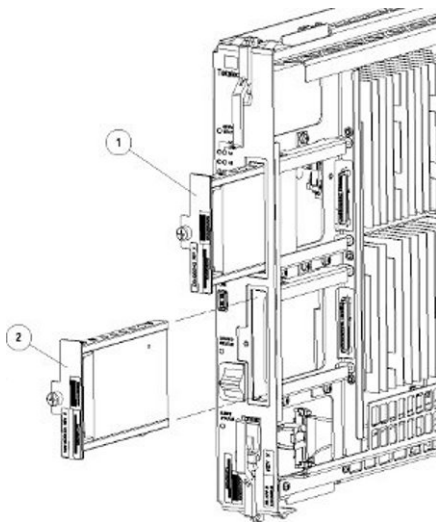

Figure 36: Drive Module Removal
5. Grasp the screw (E) and pull the drive out slowly until it is free from the card (see Figure 36: Drive Module Removal).